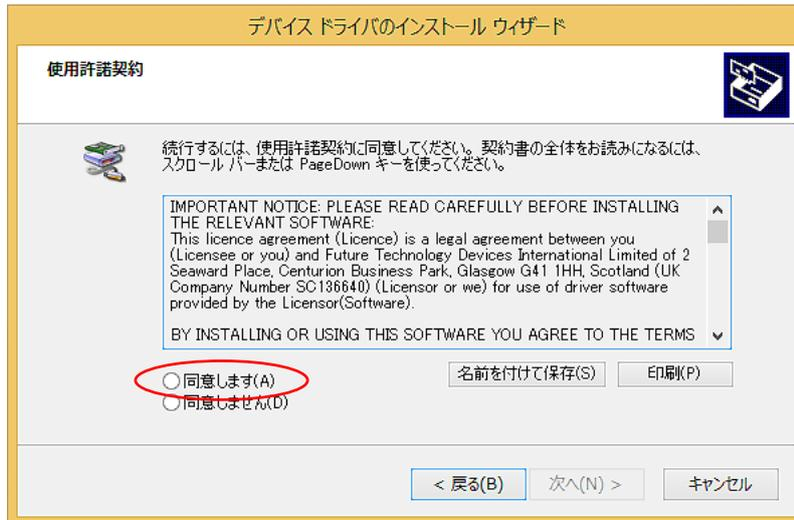

Fig. 10: Product License Agreement
(4) Select [Next] and Fig. 10. Product License Agreement screen is shown.